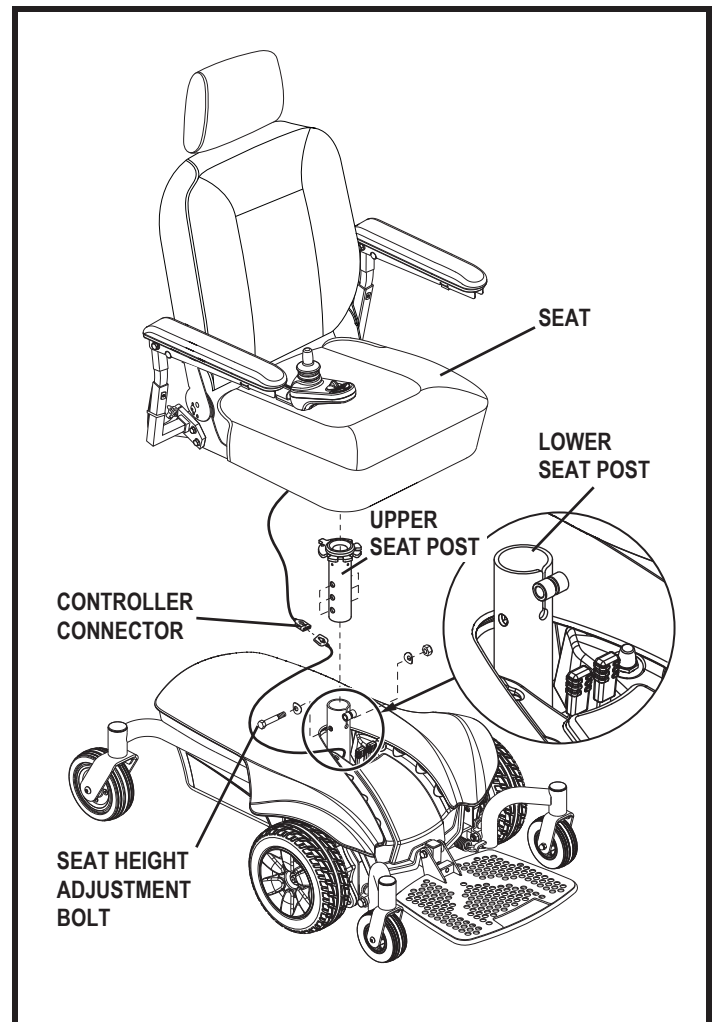

Figure 12. Seat Height Adjustment
3. Disconnect the controller connector from the power base. **See figure 12.**
4. Disengage the seat release lever. **See figure 12.**
5. Loosen the hardware at the front of the seat post. **See figure 12.**
6. Remove the seat height adjustment bolt, washers, and nuts from the seat post. **See figure 12.**